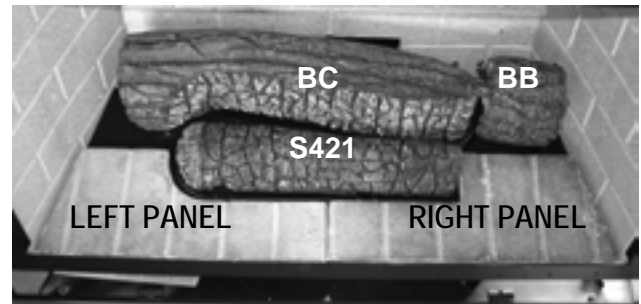

Figure G-1
**G. LOG INSTALLATION. See Figures G-1 - G-3.**
1. Position the left & right bottom refractory panels onto front of the burner cover and as shown in Figure G-1.
3. Place remaining base logs 'BB', & 'BC' into position on the burner cover aligning the holes in the bottom of the logs to the mounting studs as shown in Figure G-1.